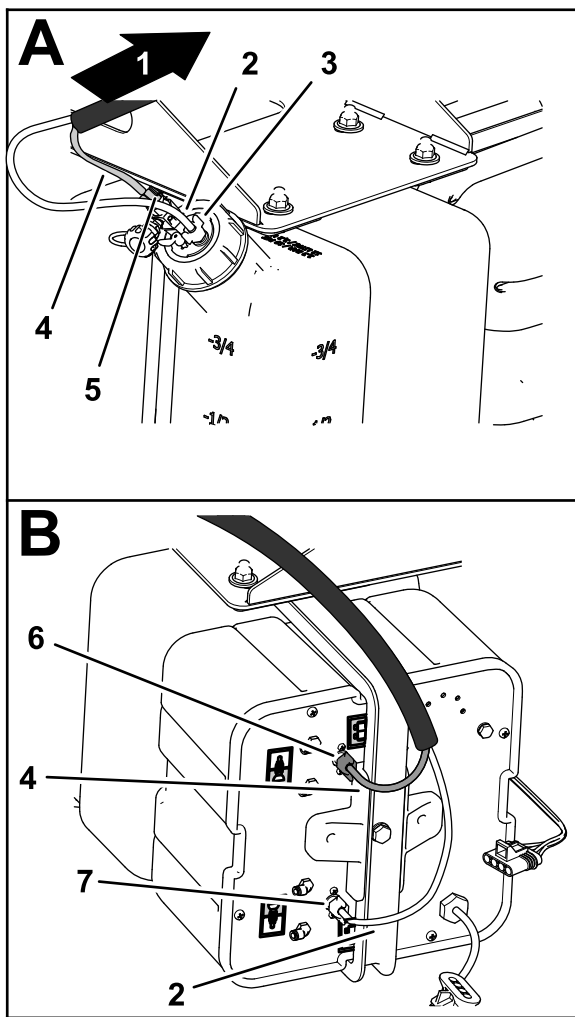

Figure 3
1. Route the compressor to tank loop-back tubes 92 cm (3 ft) from the cap to the compression nuts at the side of the compressor (Figure 3).
2. Remove the white compression nut and assemble it onto the clear tube (Figure 3).
3. Assemble the clear tube and white compression nut onto the fitting at the side of the compressor, and tighten the white compression nut by hand (Figure 3).
4. Remove the blue compression nut from the fitting at the side of the compressor (Figure 3).
5. Assemble the blue tube and blue compression nut onto the fitting at the side of the compressor, and tighten the blue compression nut by hand (Figure 3).